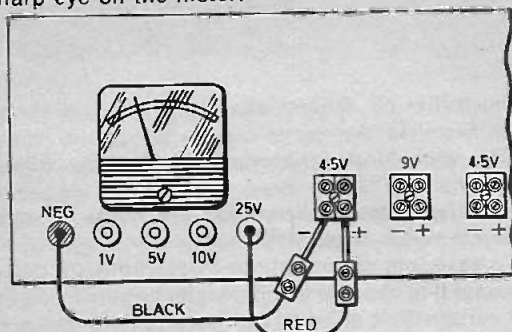

Fig. 1A.1. Testing that the batteries have been correctly wired to the terminal blocks.
1. With the probes plugged into the 25V meter sockets as shown in Fig. 1A.1, hold the negative probe (black) against the metal terminal of the 4.5 volt battery marked -ve and momentarily touch the +ve terminal with the positive probe (red) while keeping a sharp eye on the meter.